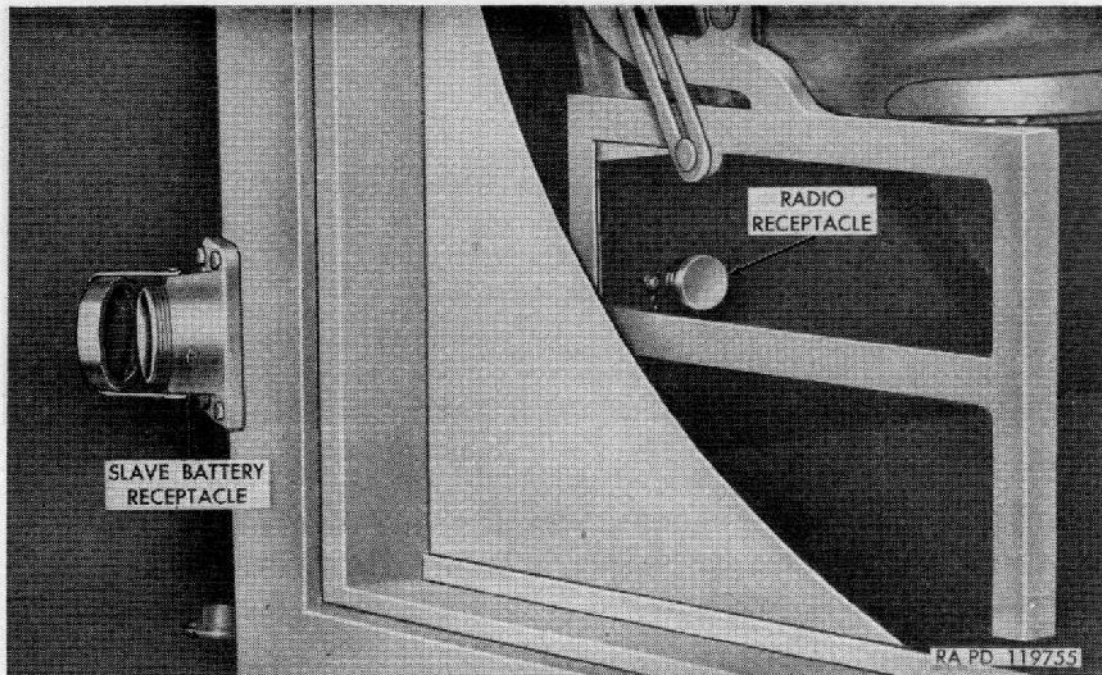

Figure 127. Slave battery receptacle.
- (7) *Slave-battery receptacle* (fig. 127). The slave-battery receptacle is installed at right-rear corner of cab body. The receptacle is wired in parallel with batteries. It is used to charge the batteries from an external source or to connect additional electrical power from an external source to operate electrical components.
- (8) *Radio receptacle* (fig. 127). The radio receptacle is located on cab rear panel behind the assistant driver's seat, and provides power connection for radio.
(fig. 127)